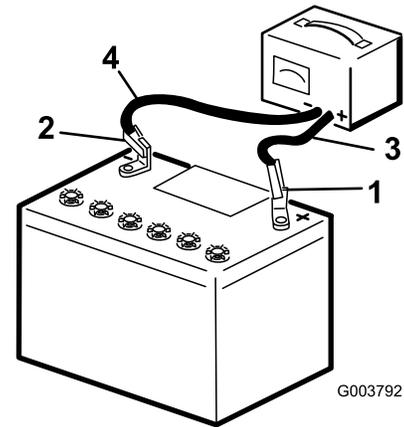

Figure 31
4. When the battery is fully charged, unplug the charger from the electrical outlet, then disconnect the charger leads from the battery posts (Figure 31).
3. Charge the battery for 10 to 15 minutes at 25 to 30 amps or 30 minutes at 4 to 6 amps (Figure 31). Do not overcharge the battery.